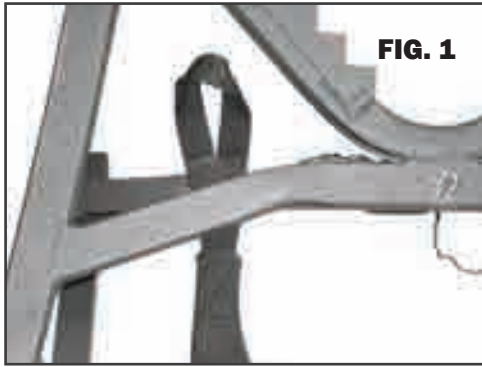

FIG. 1
1. Turn Foot Platform over, insert the looped ends of the backpack straps up through the rear frame of the platform . **(See Fig. 1)**
1. **LEAN** on front bar of Seat Platform and lift your feet to raise Foot Platform. Push down to set Foot Platform in raised position. **FIG.1**